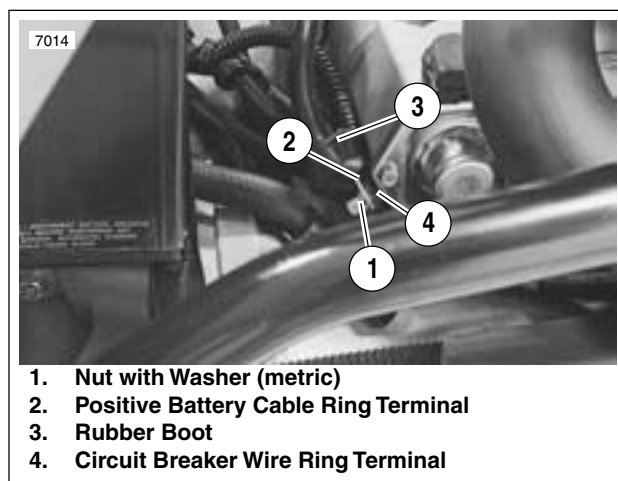

Figure 5-10. Starter Wires
4. See Figure 5-10. Remove nut with washer (1) (metric).
- b. Remove positive battery cable ring terminal (2).
- c. Remove circuit breaker wire ring terminal (3).